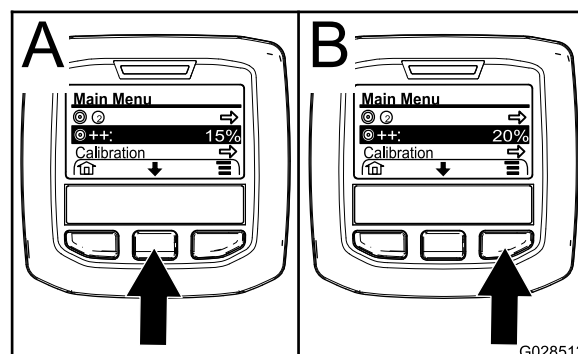

Figure 68
2. If needed, press the center selection button to highlight the application rate boost (Figure 68).
Note: The icon for the application rate boost look 2 (+) signs to the right of a bull's-eye target (Figure 68).
3. Press the right selection button (Figure 68) to increase the boost percentage in 5% increments (20% maximum).